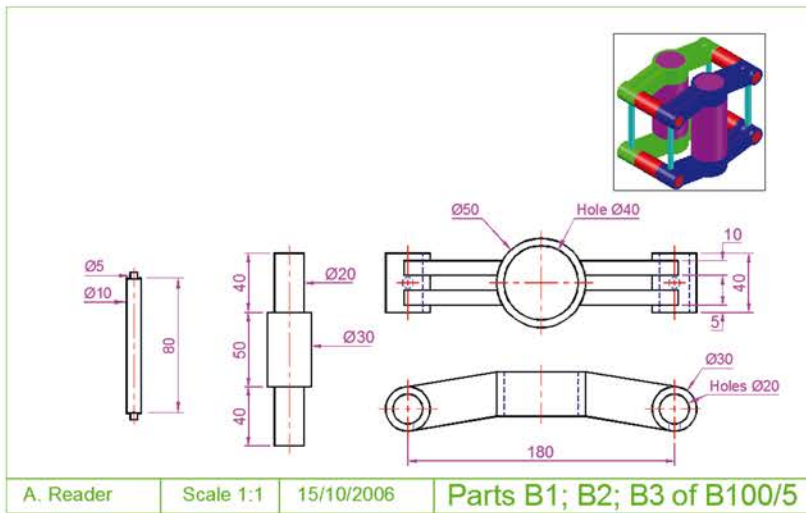

Fig. 16.56 Example – raster image in a drawing
EXAMPLE – RASTER IMAGE IN A DRAWING (FIG. 16.56)
10. Following the details given in the previous page, attach **Fig05.bmp** to the drawing at a suitable position (Fig. 16.56).
- Place the image in position in the drawing area. In Fig. 16.56, the orthographic projections have been placed within a margin and a title block has been added.